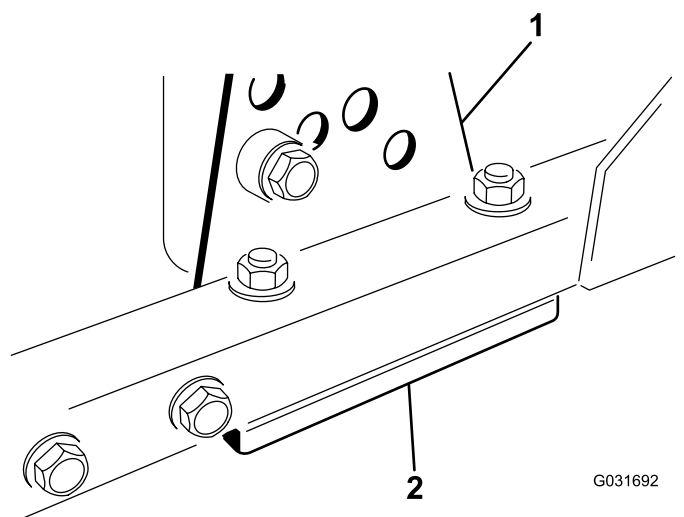

Figure 63
1. Remove the height-of-cut bracket (front, left, or right) from the deck frame (Figure 63).
2. Adjust 1.5 mm (0.060 inch) shims and/or 0.7 mm (0.030 inch) shim between the deck frame and bracket to achieve the desired height setting (Figure 63).